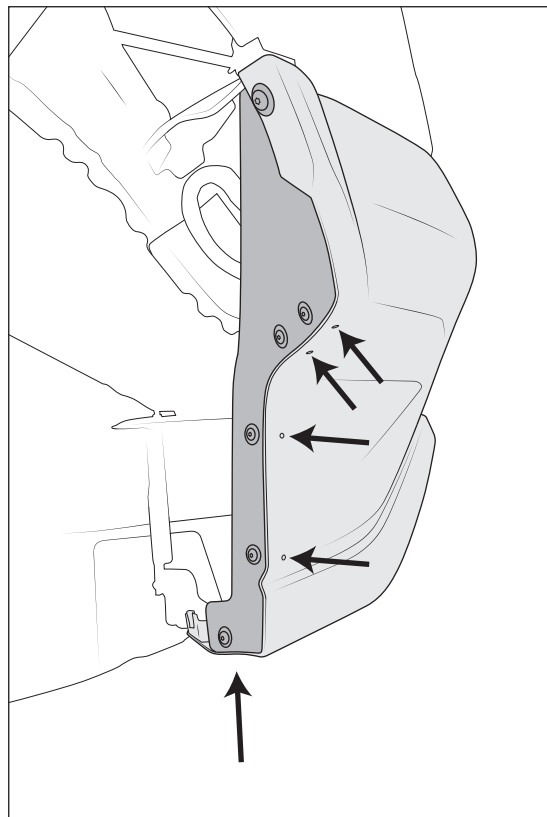

Figure 15
- C. Fasten closeout panel at top existing hole, once in place, mark and drill all remaining holes (fig. 15).